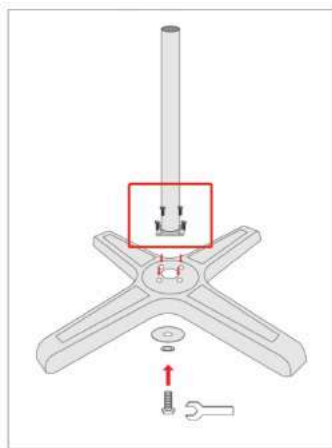

Figure 1
1. Remove the bolt and washers at the bottom of the tube and the 4 screws on the base. Insert the tube properly into the center hole of the base by aligning the holes of the 4 screws and assemble the tube and base by replacing the washers and bolt and tightening the screws. Figure 1